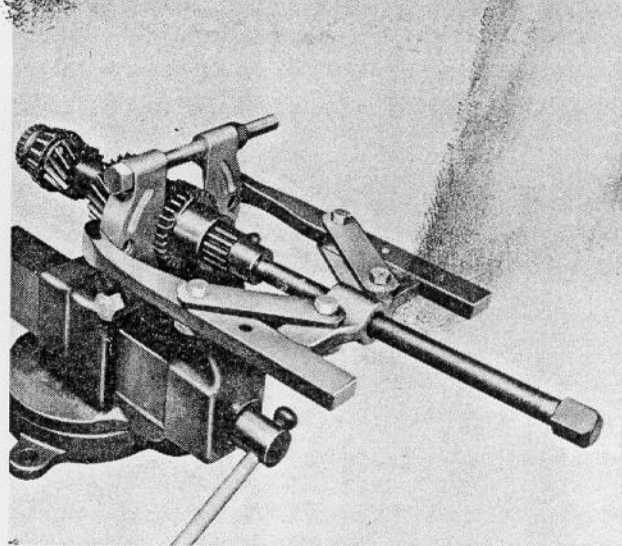

Fig. 12
- f. Remove the countershaft connector (D-Figure 9) as shown in Figure 12.